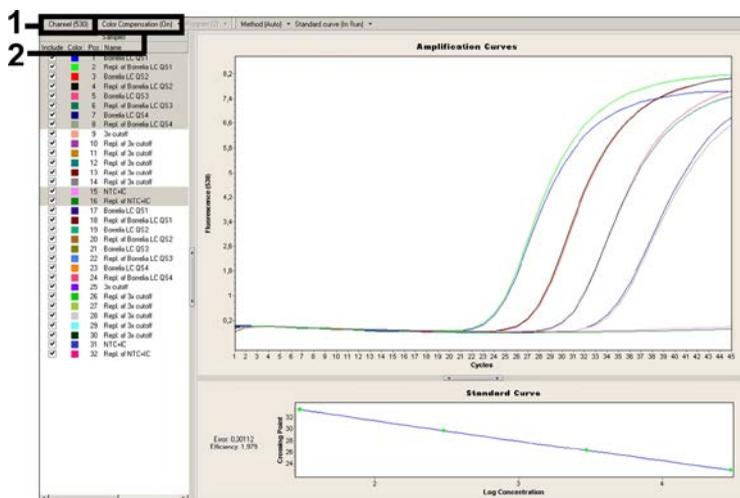

Fig. 12: Activation of the *Color Compensation File* and selection of the fluorescence channel.
For the analysis of PCR data please proceed as follows (see Fig. 12):
- The *LightCycler* Software Version 4.0 contains a file termed *Color Compensation File*, which compensates multicolor analyses interferences between fluorescence channels. Open this file during or after the PCR run by activating the *Color Comp (On/Off)* and then the *Select Color Compensation* button (see Fig. 12). If no *Color Compensation File* is installed, generate the file according to the instructions given in the *LightCycler Operator's Manual*.